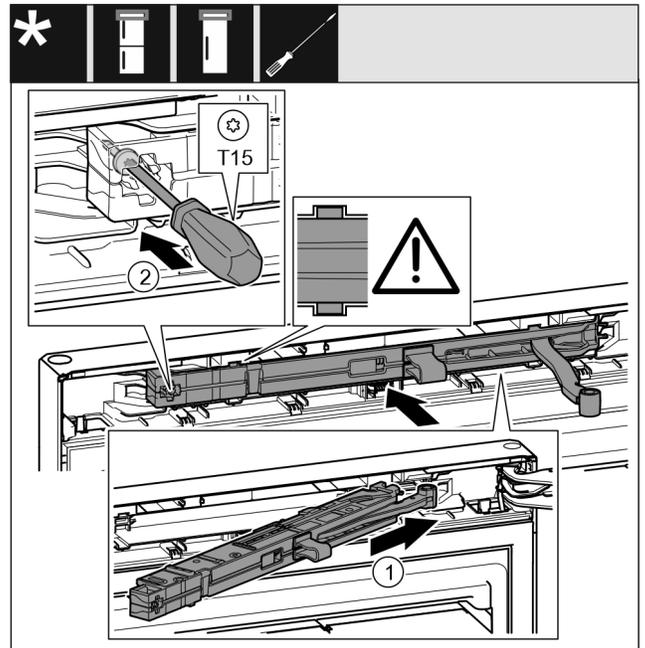

Fig. 22
- ▶ Slide the soft stop mechanism on the bearing bracket side at an angle into the recess as far as it will go. Fig. 22 (1)
- ▶ Tighten the screw using a T15 screwdriver. Fig. 22 (2)